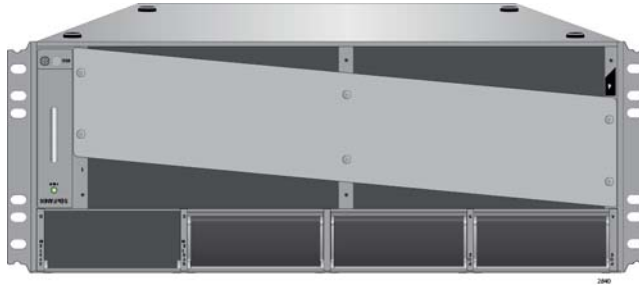

Figure 42. Turning the Chassis Upside Down
1. Place the unit upside down on a level, secure surface, as shown in Figure 42 on page 104.